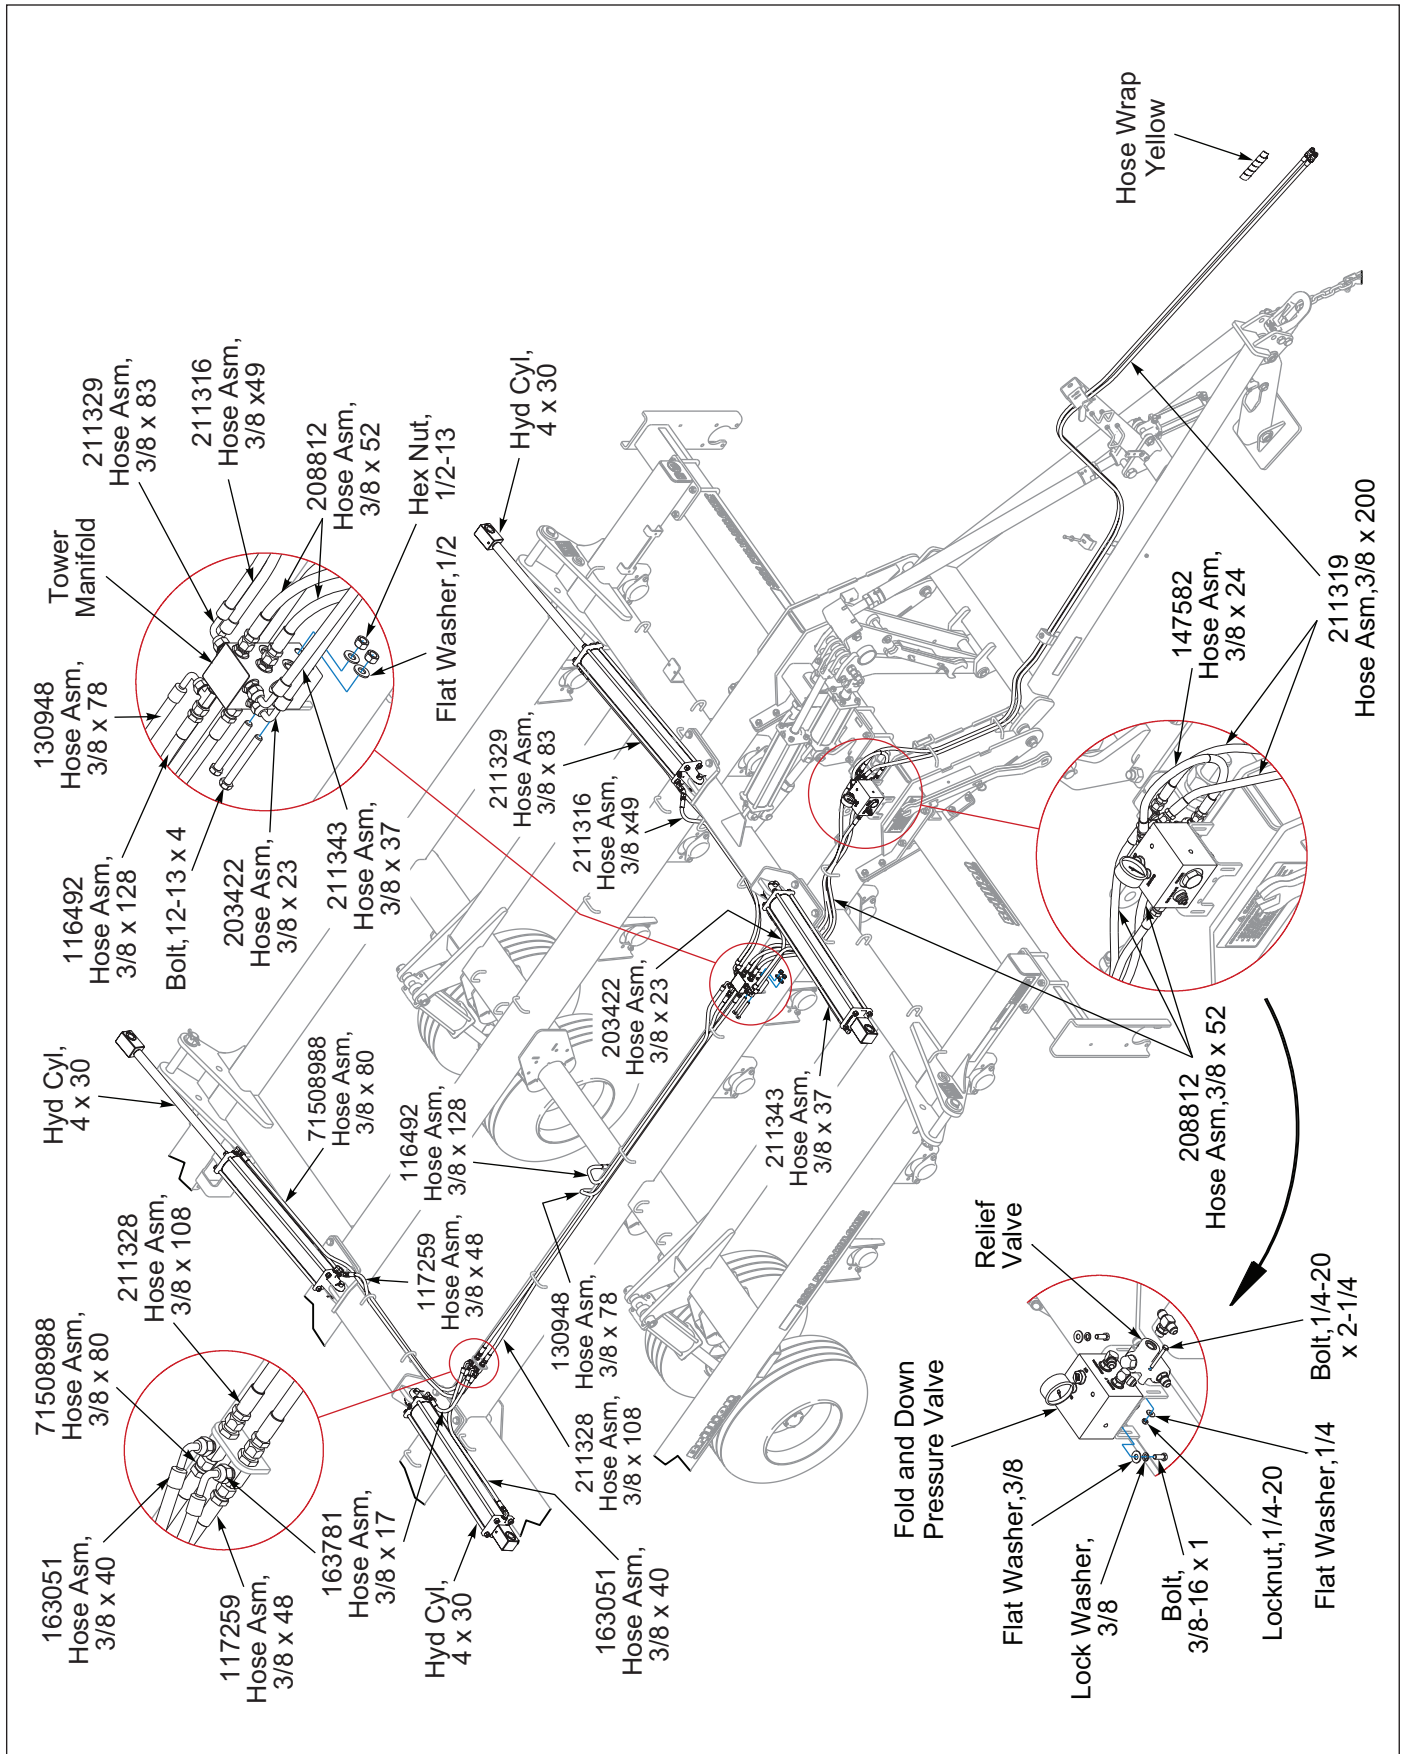

Figure 2-22: Fold Hydraulic Layout
4. Install rear cylinder hoses to bulkhead and hoses from front of the bulkhead to tower manifold. **See Figures 2-22 and 2-23.**